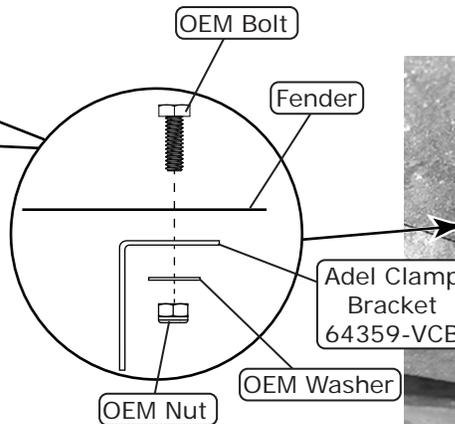

Figure 1
9. Locate the (2) #8 Adel clamp brackets and install them onto the 3rd and 4th holes under the fender using OEM bolts, washers and nuts (See Photos 11, 12, 13, and Figure 1, below).
10. Install (2) 3/4" Adel clamps and (2) 1" Adel clamps using (2) 10-32 x 1/2" pan head screws and (2) 10-32 nuts with star washers (See Photos 13 and 14, below).